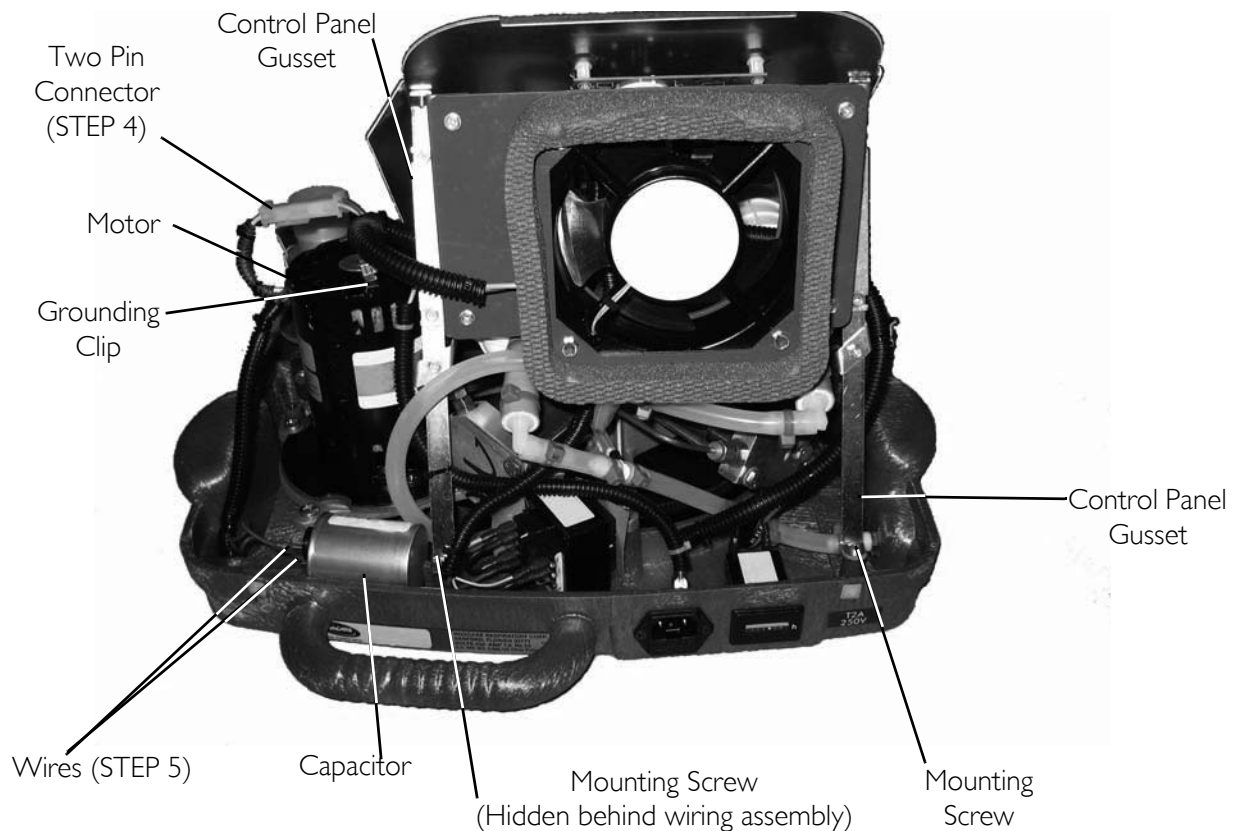
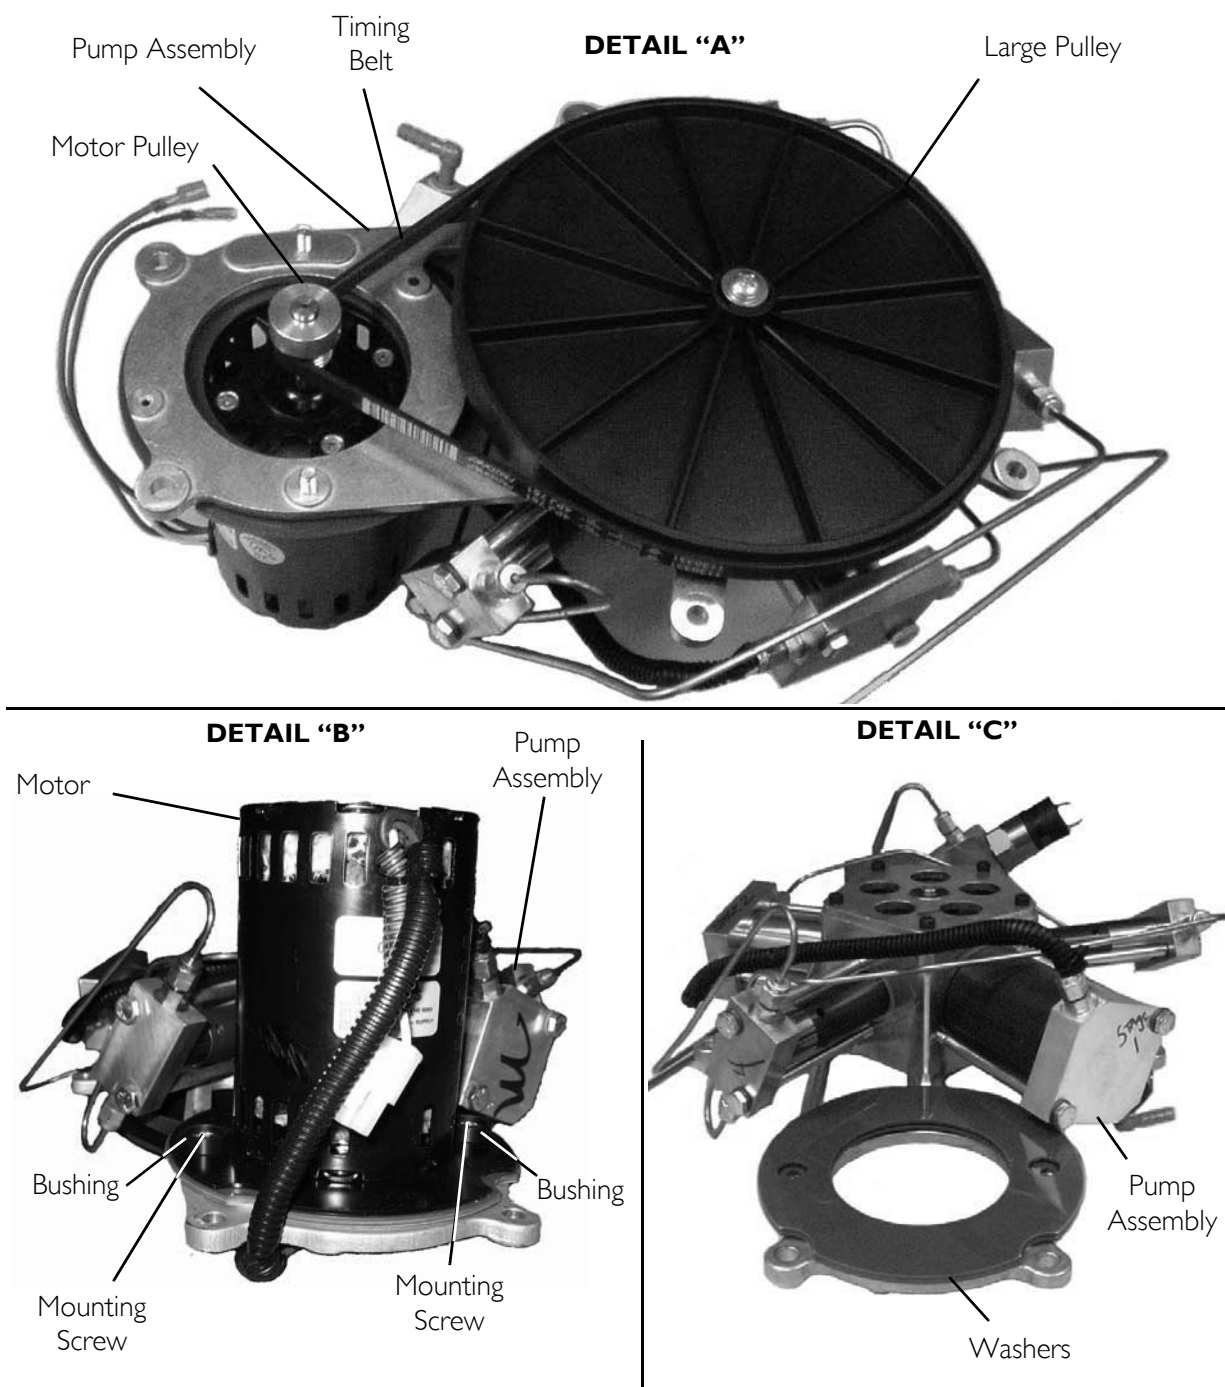

FIGURE 9.1 Motor Replacement
FIGURE 9.6 Motor Replacement
NOTE: For this procedure, refer to FIGURE 9.1 through FIGURE 9.6.
5. Disconnect the two pin connector that connects the motor to the wiring harness (FIGURE 9.1).
6. Using needle nose pliers, disconnect the two wires from the capacitor (FIGURE 9.1).
7. Using needle nose pliers, disconnect the grounding clip from the motor (FIGURE 9.1).
11. Remove the two screws that secure the control panel gussets to the rear of the base assembly (FIGURE 9.1).
25. Remove the timing belt by gently pulling the belt away from the large pulley and motor pulley. Refer to Detail "A" in FIGURE 9.6.
27. Remove the two mounting screws, two bushings, and two washers that secure the motor to the pump assembly. Refer to Detail "B" and "C" in FIGURE 9.6.
1. Position the washers on the pump assembly. Refer to Detail "C" in FIGURE 9.6.
2. Position the motor on the pump assembly. Refer to Detail "B" in FIGURE 9.6.
3. Secure the two washers and motor to the pump assembly with two mounting screws and two bushings. Torque mounting screws to 60-70 in-lbs (6.78-7.9 Nm). Refer to Detail "B" in FIGURE 9.6
4. Install the belt over the large pulley and the small motor pulley. Refer to Detail “A” in FIGURE 9.6.
17. Secure the control panel gussets to the rear of the base assembly with two mounting screws (FIGURE 9.1).
21. Connect the grounding clip to the motor (FIGURE 9.1)
22. Connect the two wires to the capacitor (FIGURE 9.1)
23. Connect the two pin connector that connects the motor to the wiring harness (FIGURE 9.1).